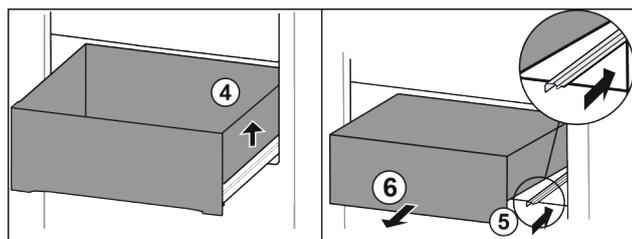

Fig. 15
- ▶ Lift drawer on the right Fig. 15 (4).
- ▶ Insert right rail Fig. 15 (5).
- ▶ Take out the drawer to the front Fig. 15 (6).